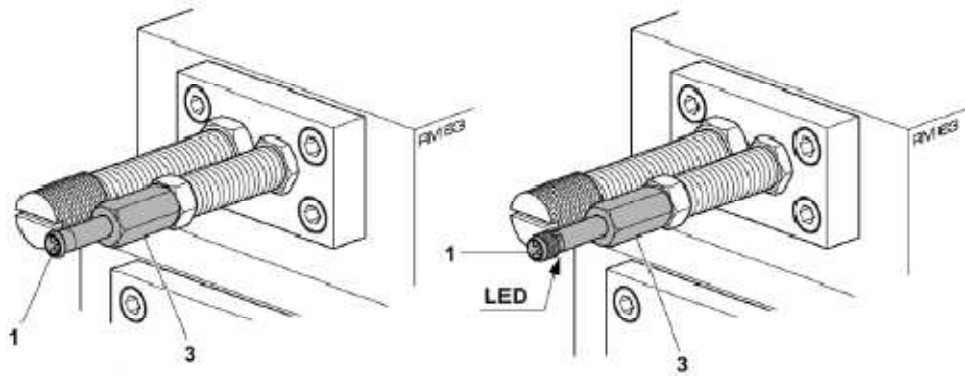

Fig.18
Plug-in and screw-in 6,5mm (1) or 8x8mm (2) proximity switches with proximity switch holders (3) are used for interrogation of the end of travel (see Fig.18,19)